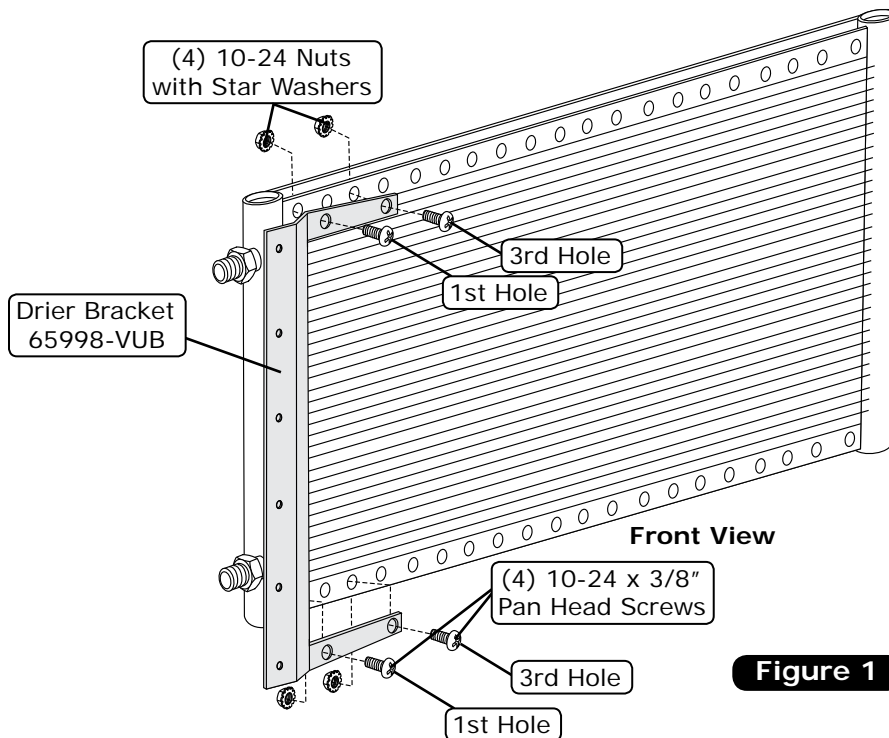

Figure 1
1. Install the drier bracket onto the condenser using (4) 10-24 x 3/8" pan head screws and (4) 10-24 nuts with star washers (See Figure 1, below). **NOTE: The brackets mount through the first and third holes in the condenser.**